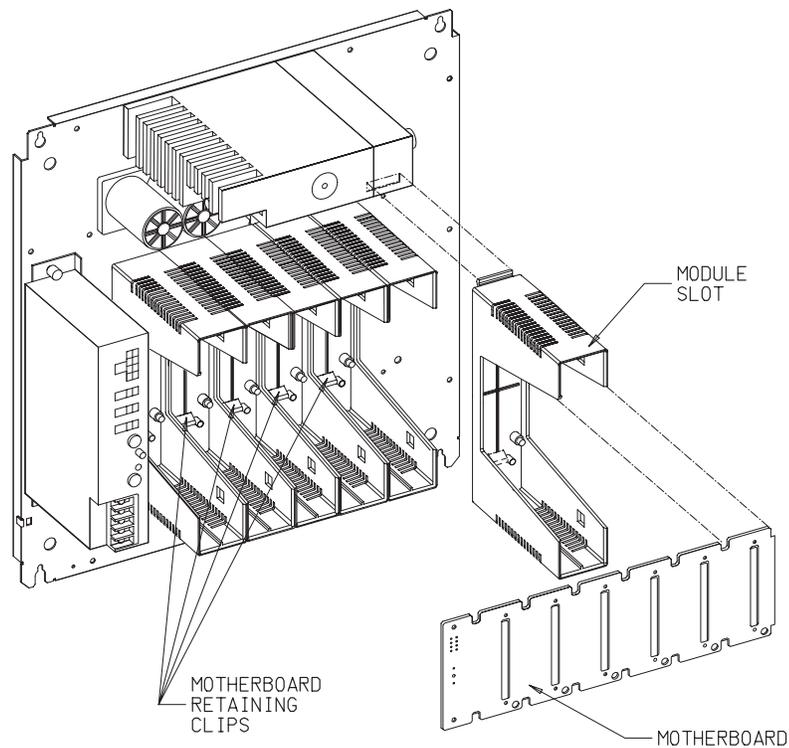

Figure 8. Modular Bus Disassembly
The motherboard is attached to the module slots by the motherboard retaining clips (see Figure 8).
- (4) Carefully bend one of the outermost clips away from the motherboard; slightly pull the motherboard edge adjacent to the clip outwards, until it is released from the clip (see Figure 8).
- (1) Remove the motherboard (refer to paragraph 7.1).
- (2) Press the slot retaining clip (see Figure 8) upwards and carefully pull the lower part of the slot. When the slot retaining clip is released from the chassis remove the slot.